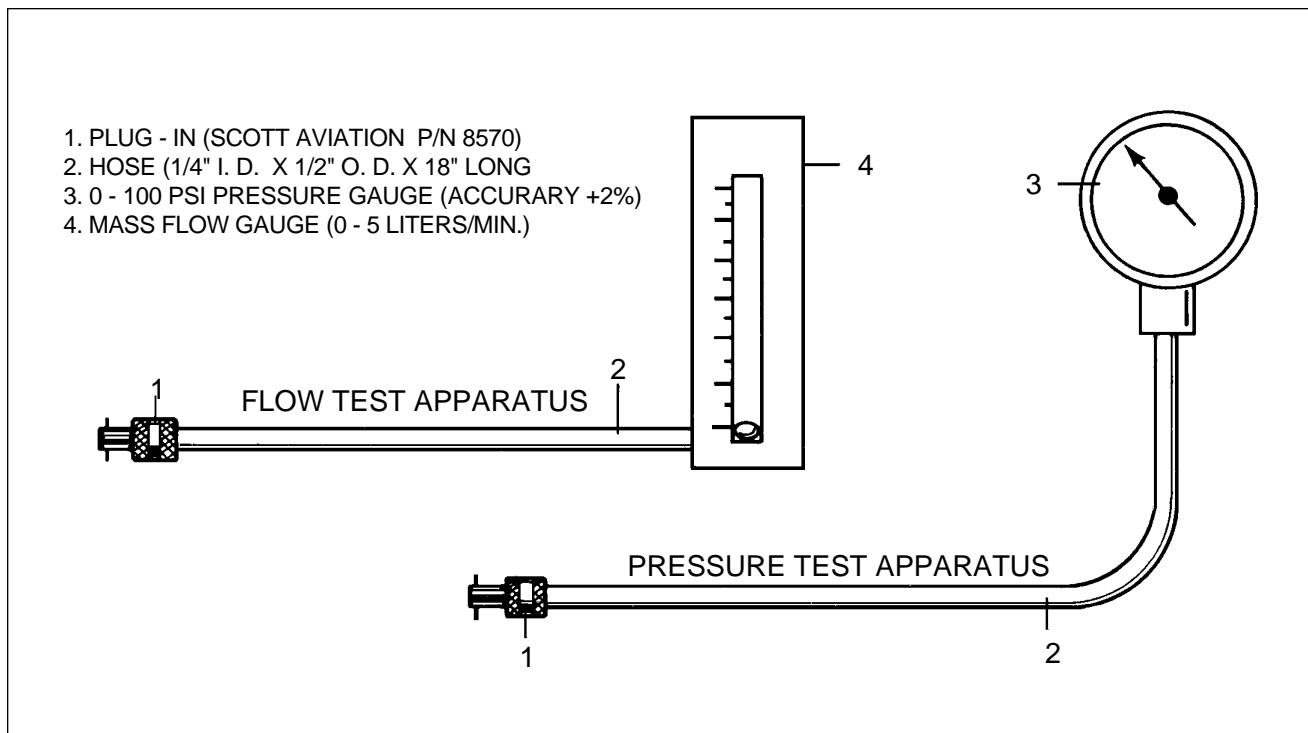

Figure 35-2. Test Apparatus For Testing Oxygen System
4. An operational check of the regulator can be accomplished as follows: (Refer to Figure 35-2.)